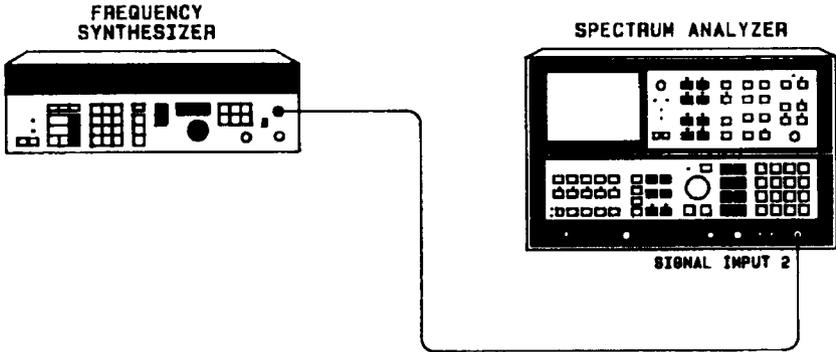

Figure 2-9. Attenuator Switching Uncertainty Test Setup
4. Connect equipment as shown in Figure 2-9.